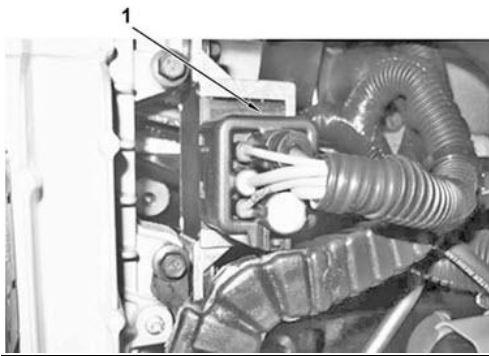

**Figure 7 - Cold Start Relay**
2. Bolt (2)
10. Disconnect cold start relay (push tab on bottom of connector to unlock) tape or otherwise cover open connector to prevent contamination from cutting chips (Figure 7, Item 1).